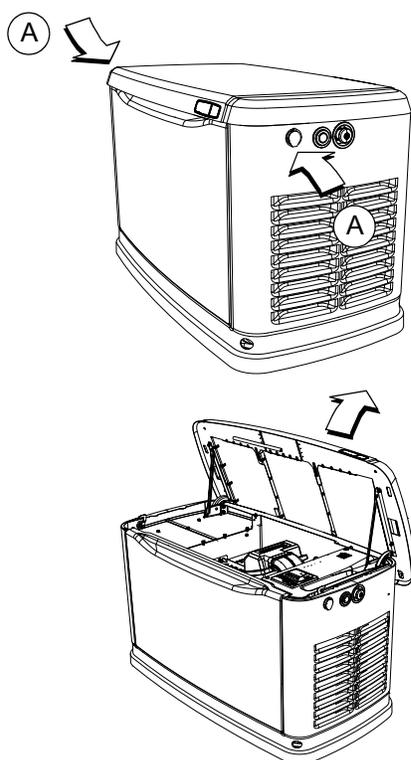

Figure 3-1. Side Lock Location
See **Figure 3-1**. Two locks secure lid—one on each side (A). Open protective rubber cap to access keyhole, and press down on lid above side lock and unlock latch to correctly open lid.